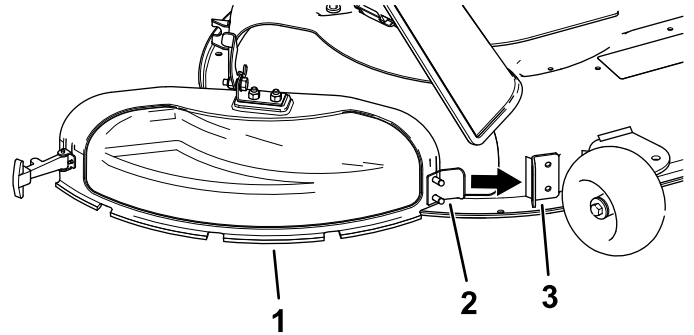

Figure 13
3. Angle the metal tab on the discharge cover into the slot in the bracket welded to the mower deck (**Figure 13**).